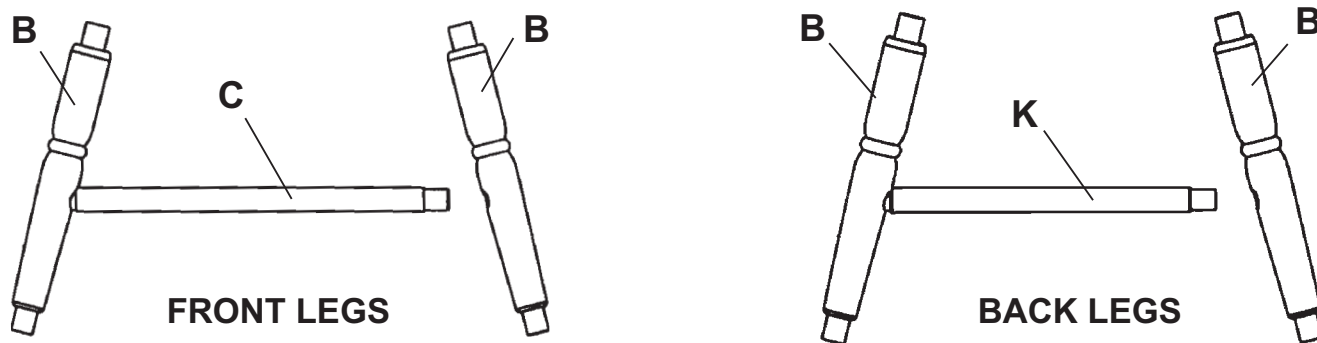

Fig. 3
3. Spread a thin layer of glue in the holes in the Legs (B). Attach the Long Front Stretcher (C) and the Short Back Stretcher (K) to a pair of legs, as shown in Figure 3.